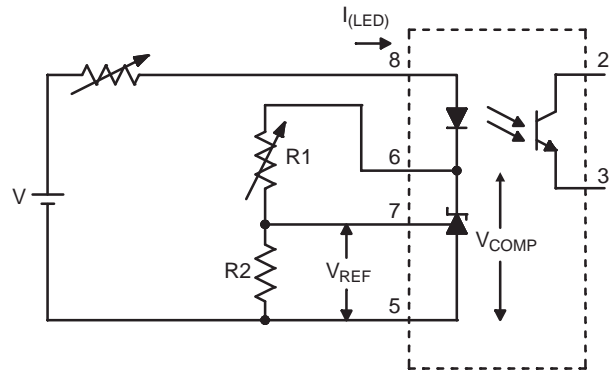

Figure 3.  $\Delta V_{REF} / \Delta V_{COMP}$  Test Circuit
5. The dynamic impedance is defined as |ZOUT| = ΔVCOMP / ΔILED. When the device is operating with two external resistors (see Figure 3), the total dynamic impedance of the circuit is given by: